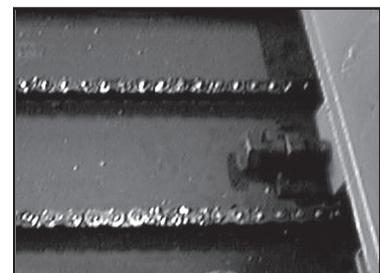

Fig. 8
3.7 The two ends of the chain can now be brought together and joined using the quick coupling provided (fig.8).